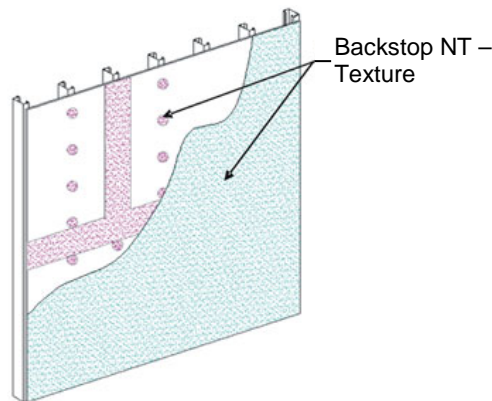

Figure 16
- 3) Use a coarse, open-cell foam roller cover with a 3/8 in (9.5 mm) foam nap (FoamPRO #58 roller). Apply a uniform, continuous film of Backstop NT – Texture over the entire surface of the sheathing, concrete or masonry, including the previously treated areas – Figure 16. **NOTE: If the roller pulls material back out of the sheathing joints, it indicates that the joint material is not sufficiently dry.**